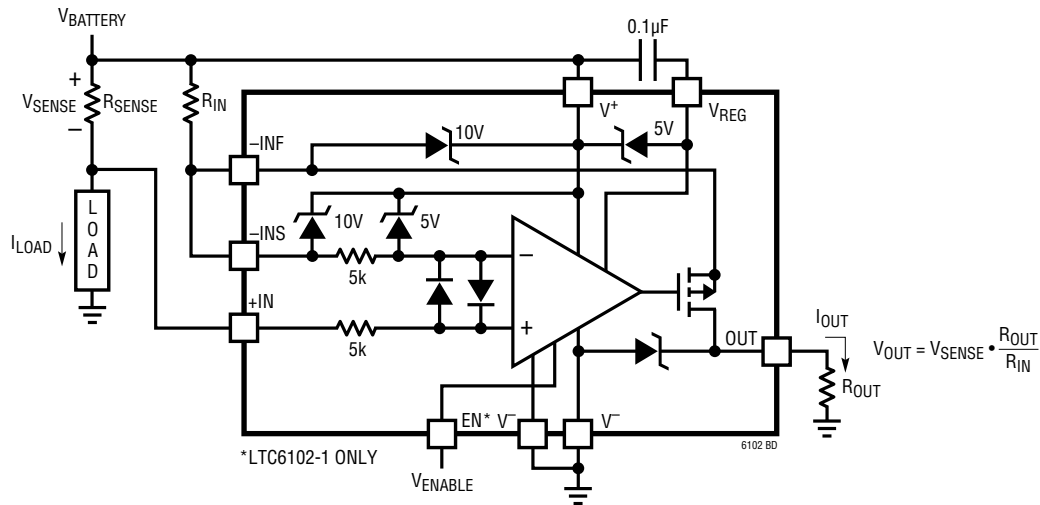

Figure 1. Block Diagram and Typical Connection
**ELECTRICAL CHARACTERISTICS** (LTC6102HV) The ● denotes the specifications which apply over the full operating temperature range, otherwise specifications are at  $T_A = 25^\circ\text{C}$ .  $R_{IN} = 10\Omega$ ,  $R_{OUT} = 10k$ ,  $V_{SENSE^+} = V^+$  (see Figure 1 for details),  $V^+ = 12V$ ,  $V^- = 0V$  unless otherwise noted.
The LTC6102 high side current sense amplifier (Figure 1) provides accurate monitoring of current through a user-selected sense resistor. The sense voltage is amplified by a user-selected gain and level shifted from the positive power supply to a ground-referred output. The output signal is analog and may be used as is or processed with an output filter.